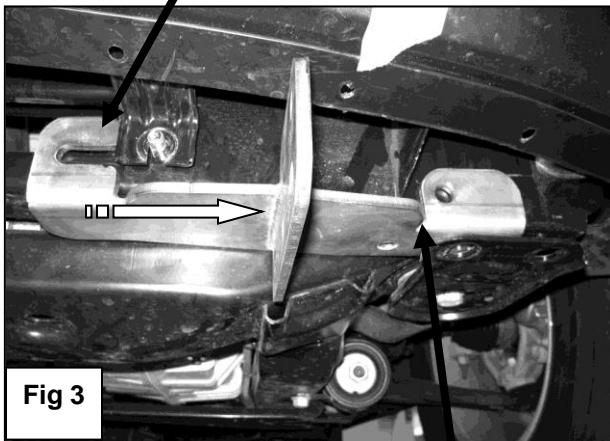

Fig 3
- Slide the slotted opening on the Mounting Bracket around the radiator support bolt and between radiator bracket and frame, while you slide the Mounting Bracket between motor mount bushing (**Figure 3**).